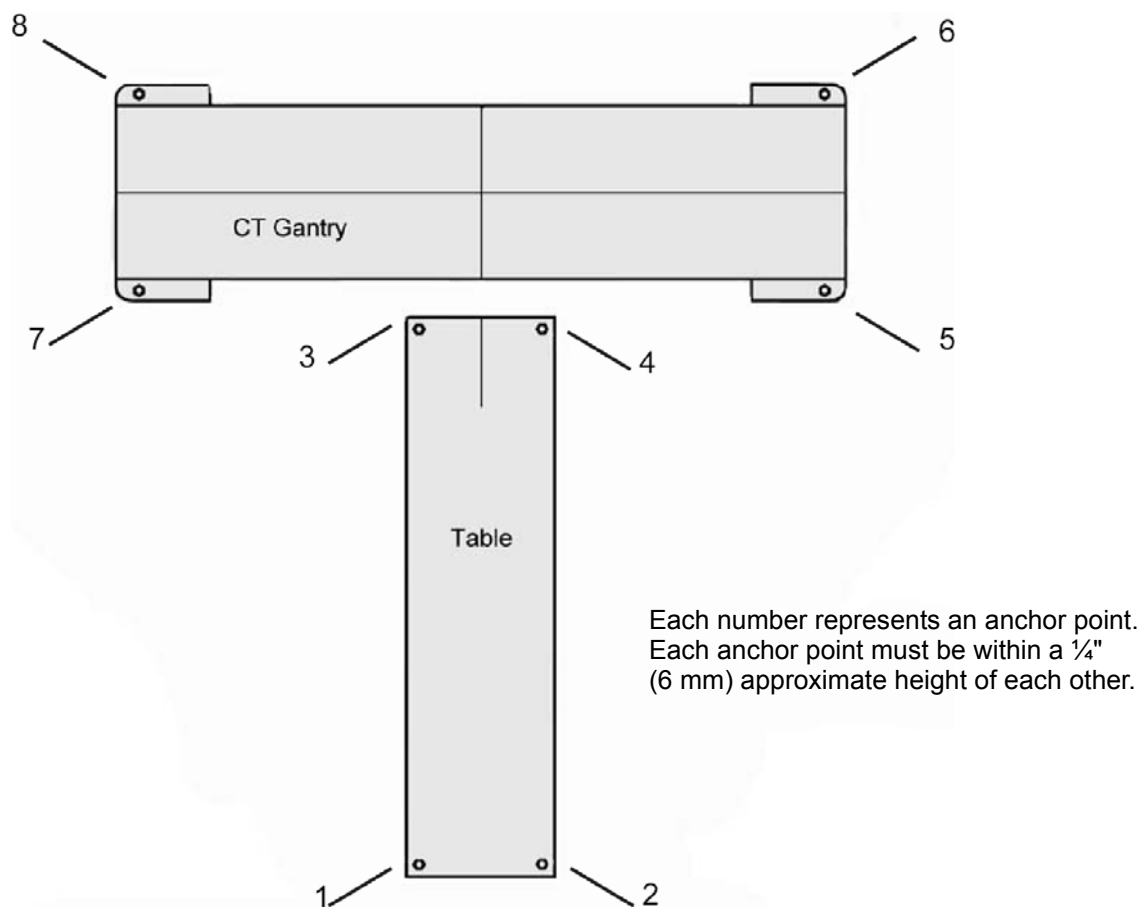

Figure 1-3 Check Floor Level
- 5.) Prior to removing this template, check floor levelness, as shown in Figure 1-3.